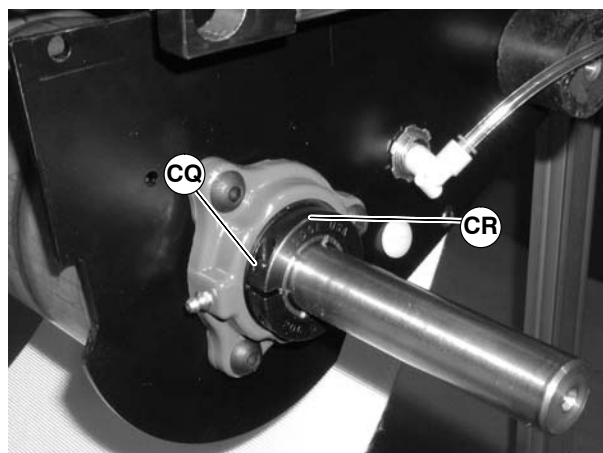

Figure 78
6. Loosen clamp screw (CQ of Figure 78) and remove bearing collar (CR).